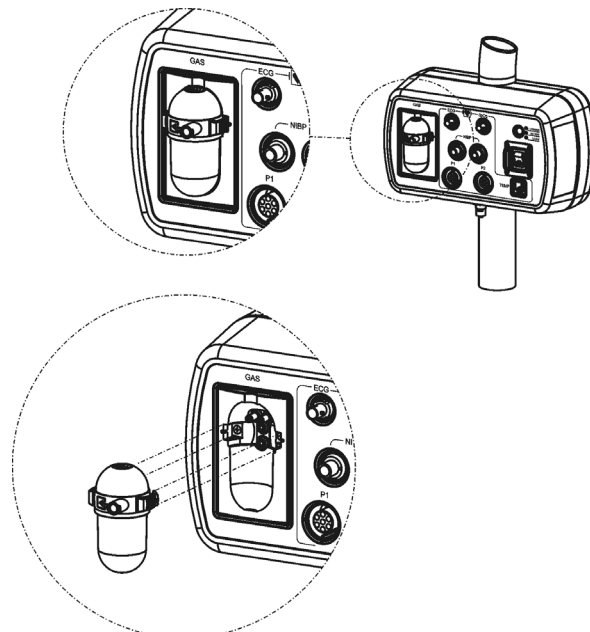

Figure 4-14. Water Trap Installation Diagram
4.4.2 Water Trap Replacement. (See Figure 4-14) Remove the sample line from the Water Trap port and perform the following to replace the Water Trap: